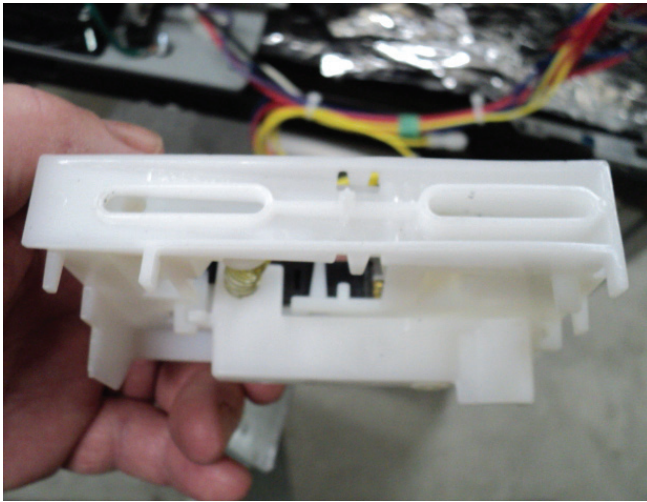
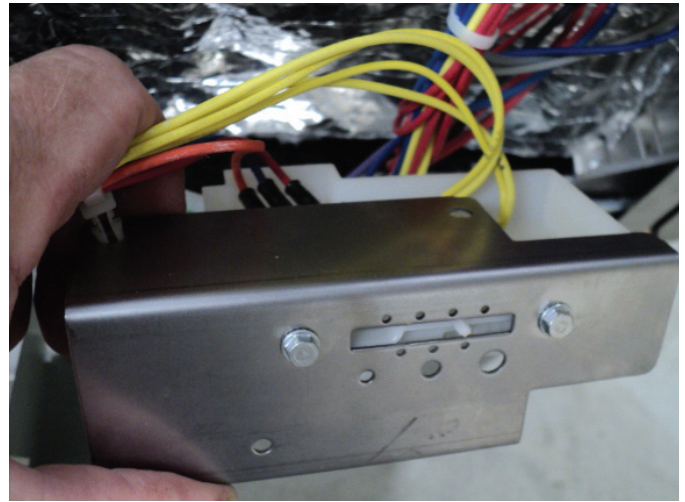

Figure 9
Figure 10
**Note:** Make sure to align holes and interlock switch top with cover and tighten switch cover to previous switch setting - see figure 9 and figure 10.